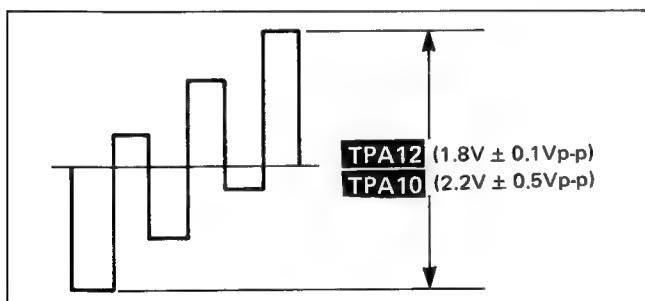

Fig. 30
- 3) Connect an oscilloscope between TPA12 and chassis GND. When adjust Sub colour VR (R629) to achieve $1.8V \pm 0.1V_{p-p}$ on the oscilloscope as shown in Fig. 30
- 4) Connect an oscilloscope between TPA10 and chassis GND. When confirm that the waveform level is $2.2V \pm 0.5V_{p-p}$ on the oscilloscope as shown in Fig. 30.